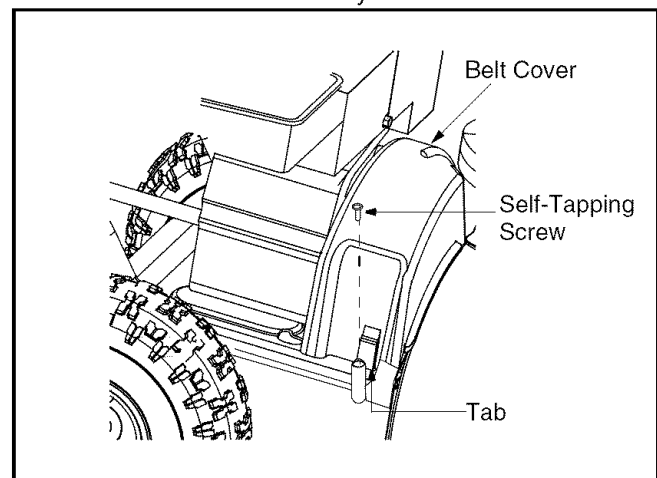

Figure 11
3. Remove the self-tapping screw shown in Figure 11, and press the plastic tabs to release the belt cover. Pull the belt cover out from around the engine and the chute. Remove it away and save.